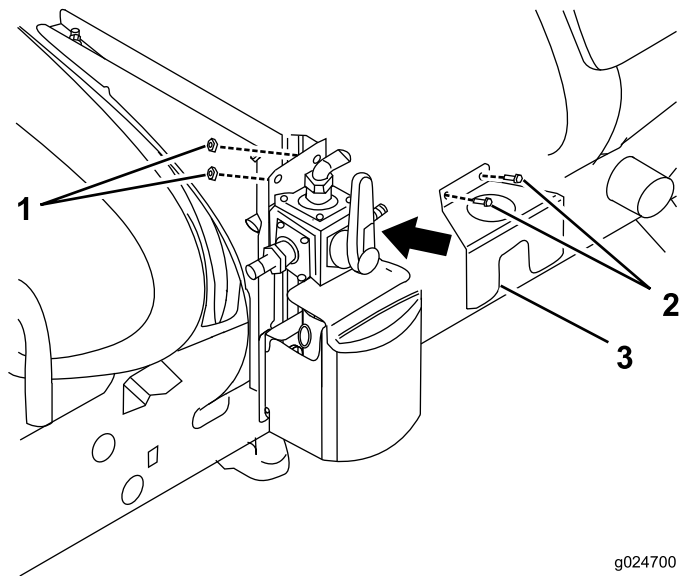

Figure 17
4. Install the faceplate bracket onto the valve mount assembly with 2 flange bolts and 2 flange nuts (Figure 17).